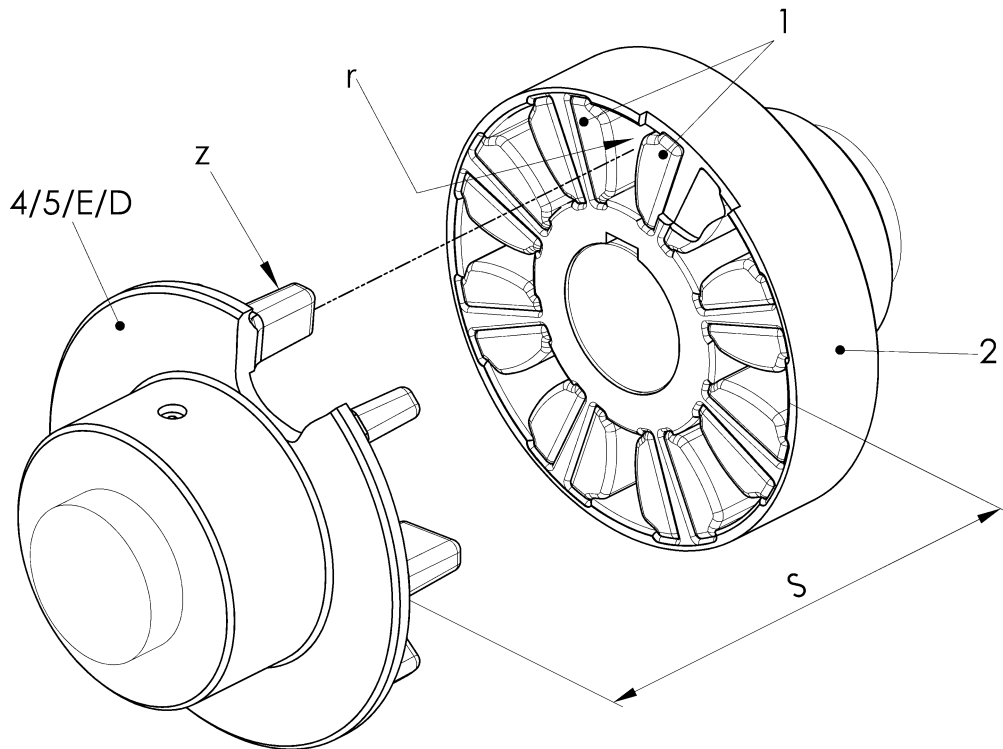

Fig. 6-9 Connecting the driving and driven units
**See Fig. 6-9:**
- Separate the inner part (4/5/E/D) from the outer part (2).